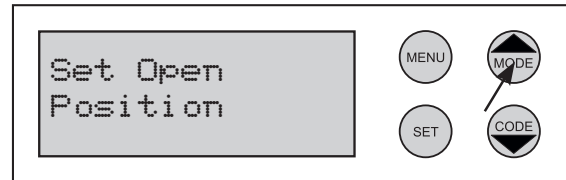

Fig. 21
- 1 With the door open approximately half way, make sure that the drive motor is engaged. The display will show `Set Open Position` (Fig. 21).